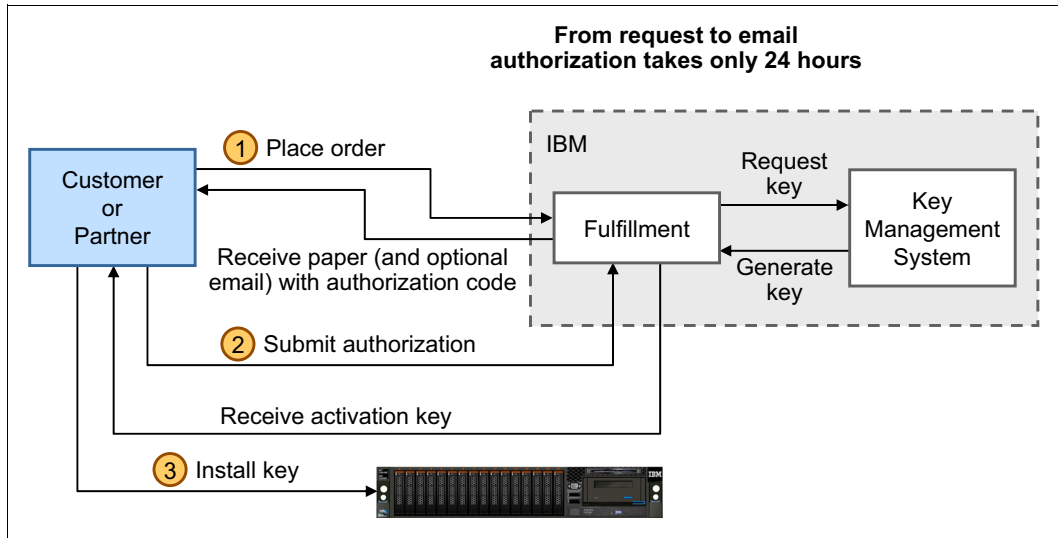

Figure 5-3 Features on Demand Post or respective order option
2. An FoD option that you purchase separately or after the system sale (Figure 5-3 on page 91).